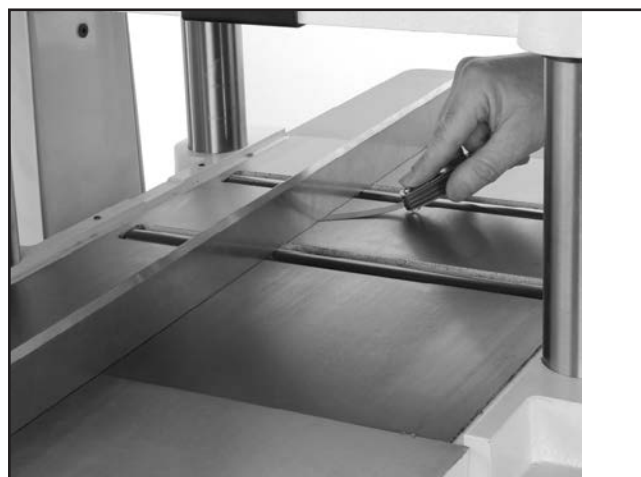

Figure 62. Setting table roller height.
1. Use a straightedge and feeler gauge (see **Figure 62**) to check roller height, and re-adjust as required between 0.0020" and 0.020".